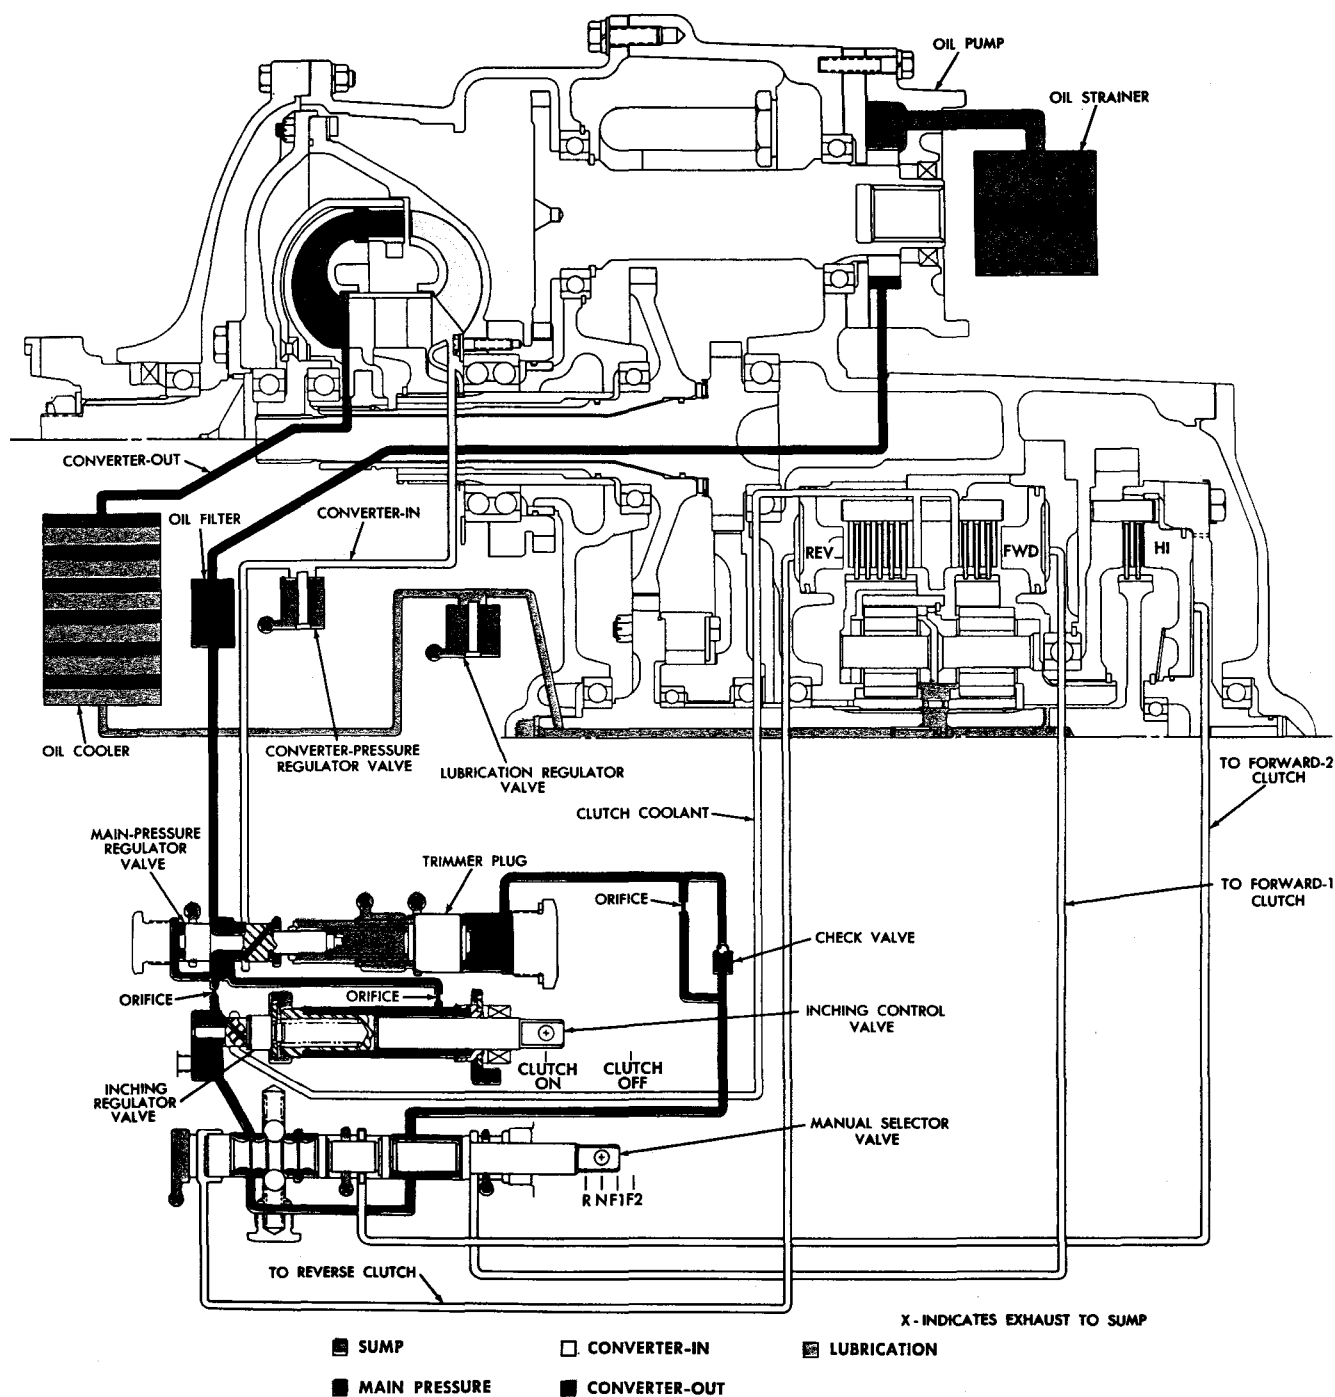

Fig. II-1. Hydraulic action in neutral, inching control valve released—schematic diagram
(1) Transmission housing 8 (A, foldout 4) is cast iron and is the main structural member of the transmission assembly. It supports and encloses the rear end of the accessory driven gears and converter driven gears. It supports and encloses the range gearing and clutches, output transfer gears, output shafts and front-disconnect components. It provides an external-mounting surface for the transmission oil pump and accessory pump. It includes various passages, within the casting, for oil circuits.
(2) The lower section of the housing provides a sump for all oil necessary for operation, lubrication, cooling and control functions. Flat mounting surfaces, with four 5/8-11 tapped holes in each, are provided at each side of the housing.
a. System Components. The hydraulic system includes every component which generates, directs, controls, or uses oil flow or oil pressure. By this definition, practically every part of the transmission can be considered a part of the hydraulic system (fig. II-1). However, in the following explanation, only those components which have a primary
(1) In the explanations of hydraulic action under various given conditions in para 15 through 18, below, the oil circuits are colored as indicated in each diagram (fig. II-1 through II-5). The valves are shown in the positions they are in normally for those conditions.
(2) Some of the diagrams illustrate the clutch cutoff valve and others illustrate the inching control valve. The action of either of these valves is the same regardless of the operating range. It is recommended that the inching control valve be used only in forward-1 or reverse ranges. The hydraulic explanations are referenced to the corresponding mechanical actions (torque paths). In all forward- and reverse-range hydraulic actions there are two corresponding torque paths (first and second turbine torque paths).
a. Fig. II-1 illustrates the hydraulic system's action when the range selector control is in neutral position while the vehicle engine is running. The oil pump draws oil from the sump and pumps it to the main-pressure regulator valve (through the oil filter, if the transmission is so equipped). Pressure on the left end of the valve pushes the valve toward the right, against its spring. When hydraulic pressure balances spring force, main pressure is regulated. All oil not required to maintain main pressure flows to the torque converter, to charge it continually.